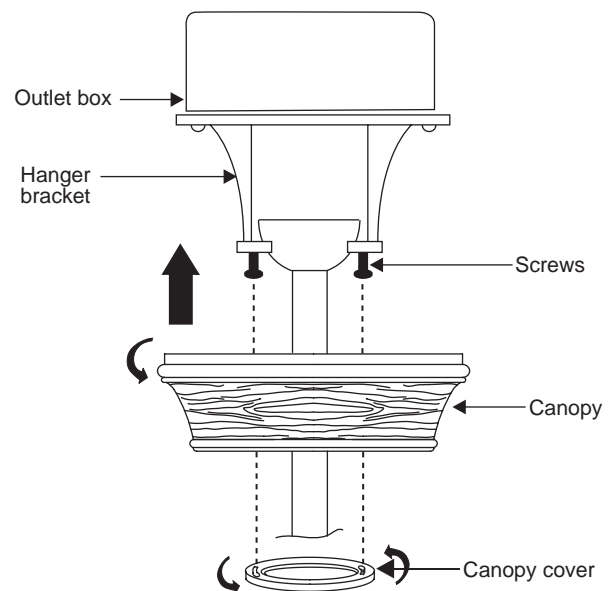

Figure 13
Step 2. Slide the canopy up to ceiling and over the two screws on hanger bracket. Rotate canopy clockwise, next, while holding the canopy with one hand, slide the canopy cover over the screws and rotate clockwise until tight. **Note:** adjust the canopy screws as necessary until the canopy and canopy cover are snug. (Fig.13)